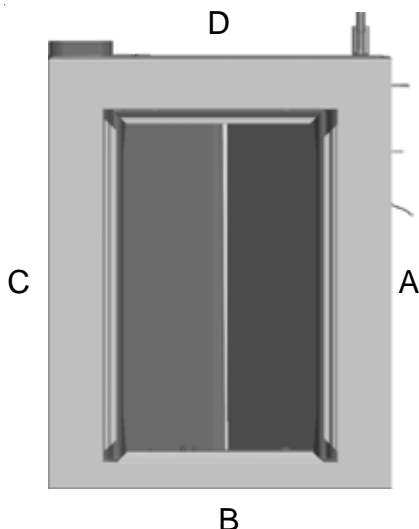

FIGURE 1 - Bottom View of Coil
- Identify sides A, B, C and D of the insulation and drain pan as shown in Figure 1. (Side D is wider than side B.)